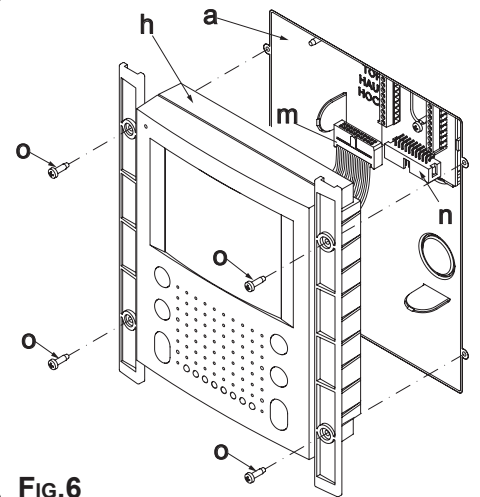

FIG.6
- *As shown on figure 6, move the videophone "h" close to the back box, connect the plug "m" on the ribbon cable from the videophone to the plug "n" on the pcb connection board then fix the videophone "h" to the back box "a" using the four screws "o";*